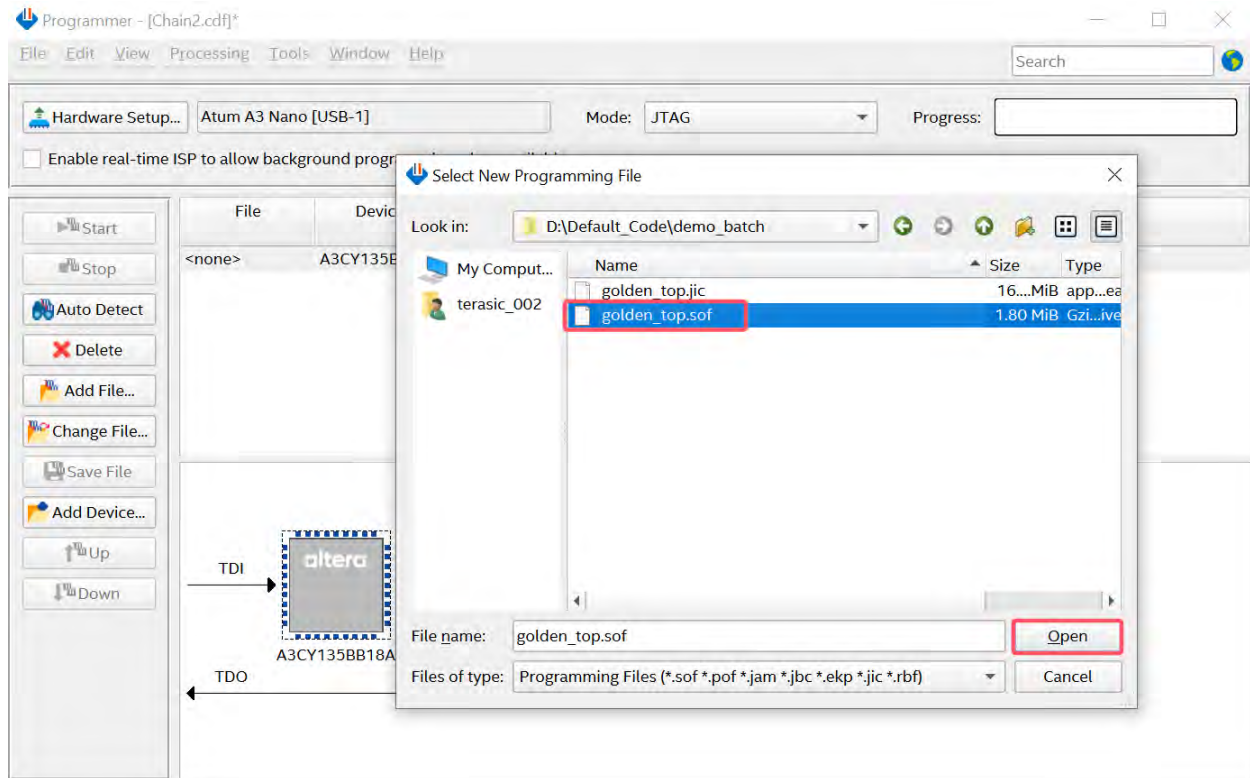

Figure 4-7 Select golden_top.sof file
- Browse to select golden_top.sof in the **Select New Programming File** window as shown in **Figure 4-7**.